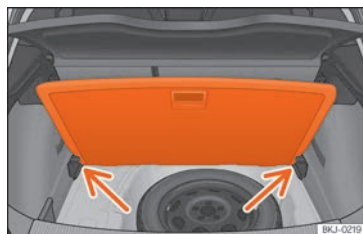

Fig. 140 Variable boot floor: tilted position.
- Rest the floor on its housings **>>>** Fig. 140 (arrows).